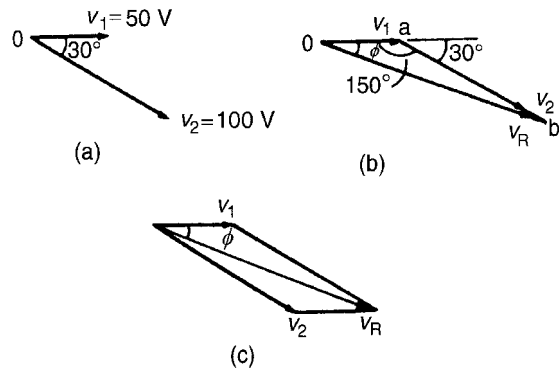

Figure 14.11
Phasors are usually drawn at the instant when time $t = 0$. Thus v_1 is drawn horizontally 50 units long and v_2 is drawn 100 units long lagging v_1 by $\pi/6$ rads, i.e. 30° . This is shown in Fig. 14.11(a) where 0 is the point of rotation of the phasors.
- (i) Draw v_1 horizontal 50 units long, i.e. oa of Fig. 14.11(b)
- (ii) Join v_2 to the end of v_1 at the appropriate angle, i.e. ab of Fig. 14.11(b)
Alternatively, when two phasors are being added the resultant is always the diagonal of the parallelogram, as shown in Fig. 14.11(c).
A more accurate solution is obtained by calculation, using the cosine and sine rules. Using the cosine rule on triangle 0ab of Fig. 14.11(b) gives: